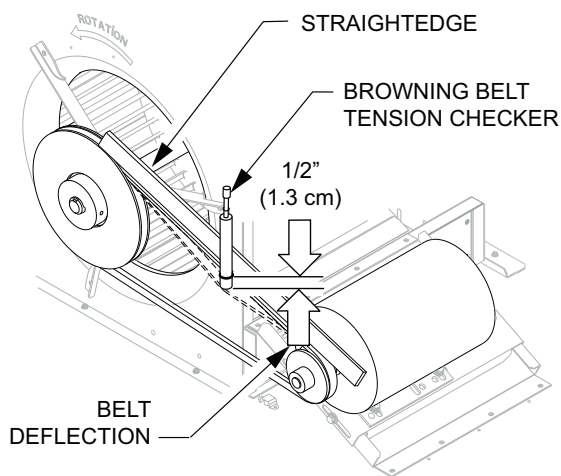

Fig. 6 — Checking Blower Motor Belt Tension
NOTE: Without the spring-tension tool, place a straight edge across the belt surface at the pulleys, then push down on the belt at mid-span using one finger until a 1/2-in. (1.3 cm) deflection is reached. See Fig. 6.
5. Make sure the fan shaft and motor shaft are parallel before tightening the motor mount nuts. See Fig. 6.
6. Check the alignment of the pulleys, adjust if necessary. See Fig. 6.
The motor pulley is an adjustable-pitch type that allows a servicer to implement changes in the fan wheel speed to match as-installed ductwork systems. The pulley consists of a fixed flange side that faces the motor (secured to the motor shaft) and a movable flange side that can be rotated around the fixed flange side that increases or reduces the pitch diameter of this driver pulley. (See Fig. 6.)
3. Loosen the movable pulley flange setscrew. (See Fig. 6.)
4. Recheck the belt tension. See Fig. 6.